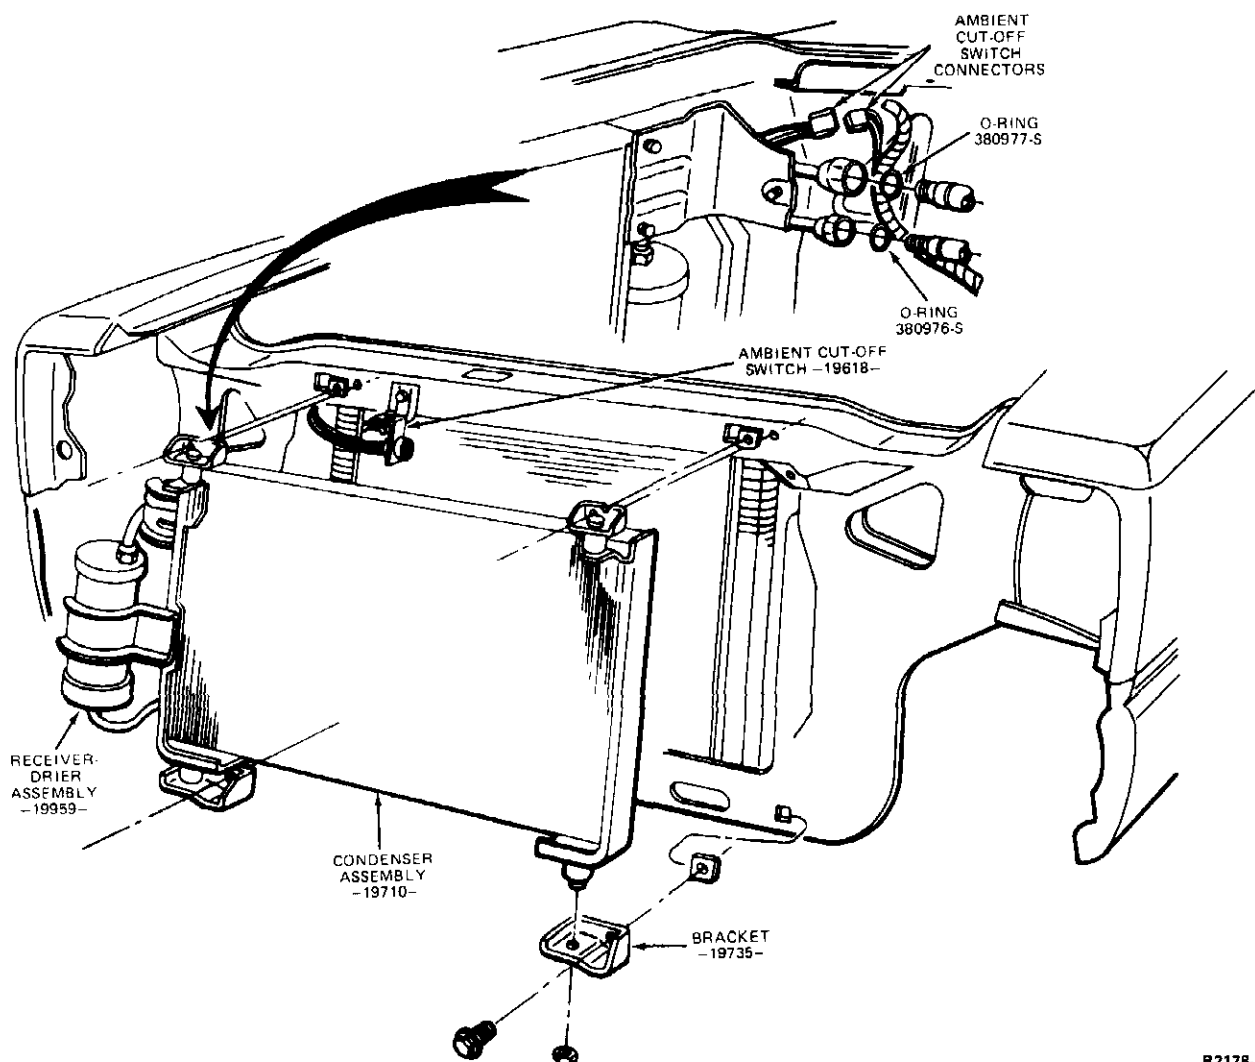

FIG. 27 Condenser and Receiver—Drier Installation
4. Disconnect the two refrigerant lines at the fittings on the right side of the radiator (Fig. 27).
3. Disconnect the refrigerant lines from the receiver-drier (Fig. 27).